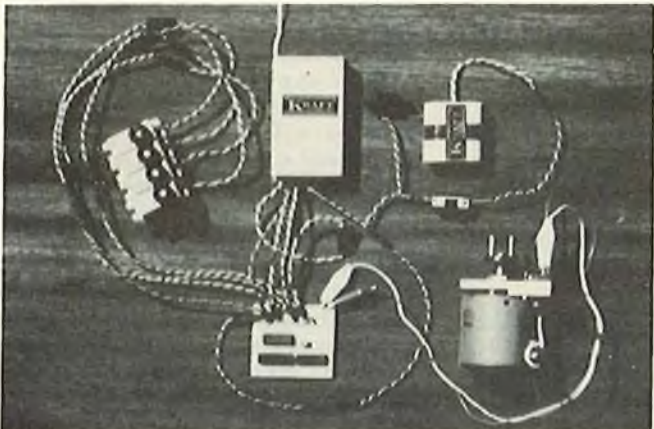
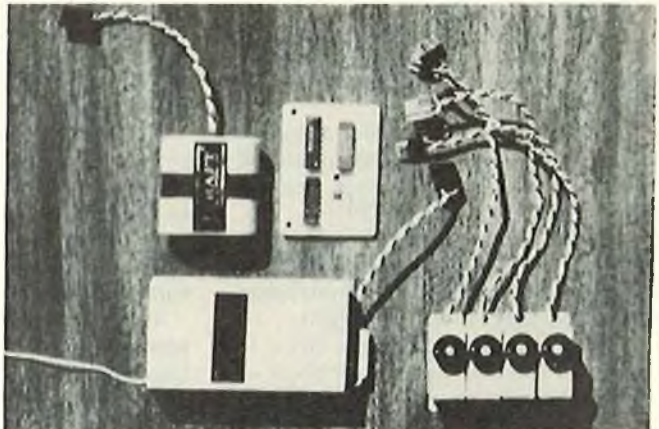

FIGURE 11
FIGURE 12
2. Adjust potentiometer for fastest servo response with minimum chatter. This will occur between 30k Ω and 90k Ω but must be fine-tuned for each particular system. Bench test set-up is shown in Fig. 11. Figure 12 shows basic components.